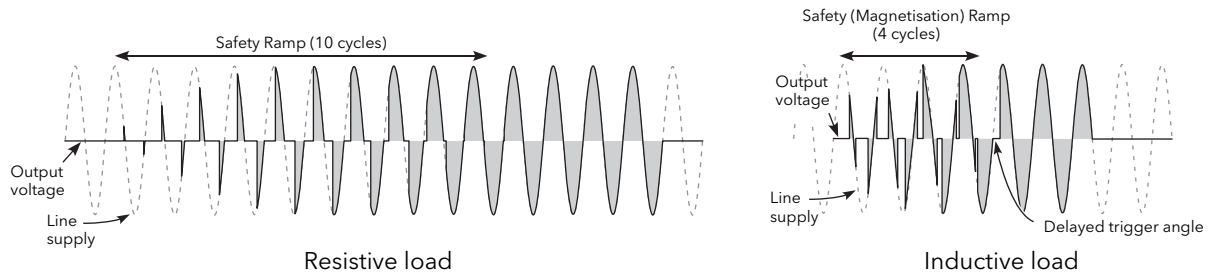

Figure 91 Safety ramp (burst firing) examples
- Safety Ramp** Displays the safety ramp duration, in supply voltage cycles (0 to 255), to be applied at startup. The ramp is either a phase angle ramp from zero to the requested target phase angle or, for Burst Firing, from 0 to 100%. See Figures 91. Safety Ramp is not applicable to Half cycle Mode.